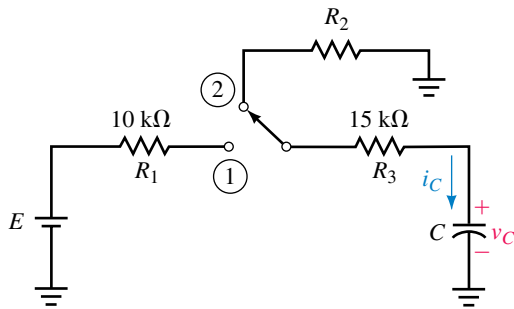

FIGURE 11–55
28. For Figure 11–55, C is fully charged before the switch is moved to discharge. Current just after it is moved is $i_C = -4$ mA and C takes 20 ms to discharge. If $E = 80$ V, what are R_2 and C ?